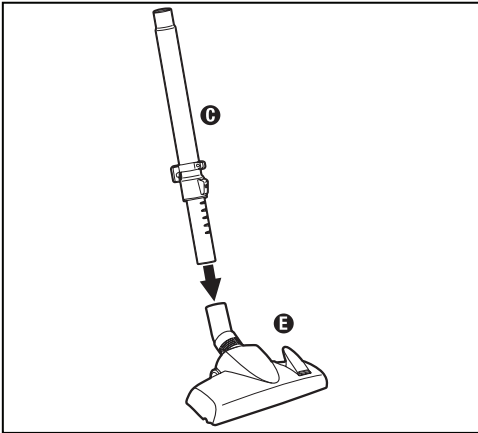

Fig.3
- Step 3:** Place floor tool **E** on end of wand **C** or **D** (Fig. 3).